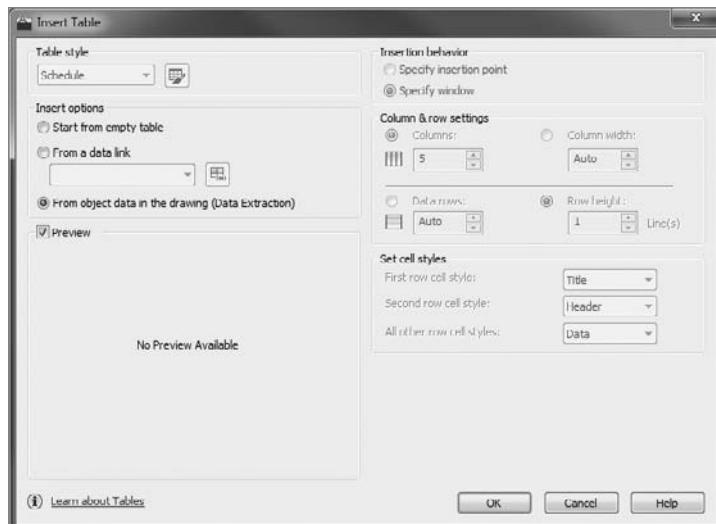

FIGURE 9.74 Creating a new data extraction table
3. Select the From Object Data In the Drawing (Data Extraction) option found within the Insert Options portion of the Insert Table dialog box, as shown in Figure 9.74, and then click OK.